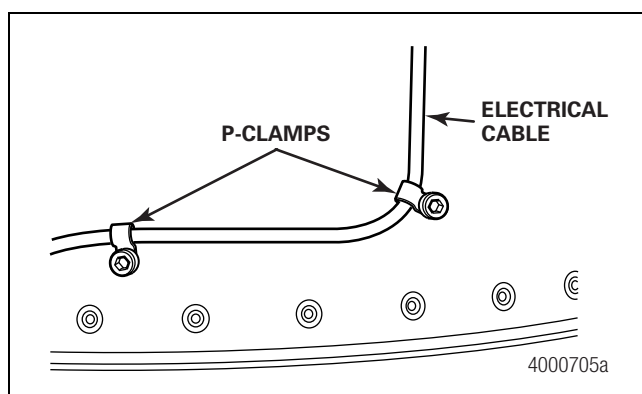

Figure 2.65
4. Route the wiring harness from the warning light to the trailer seven-way box. Secure the harness to the front of the trailer using the supplied P-clamps. Cut the harness ensuring there is sufficient length to make the connections in the seven-way box. Route the harness into the seven-way box. Figure 2.65.